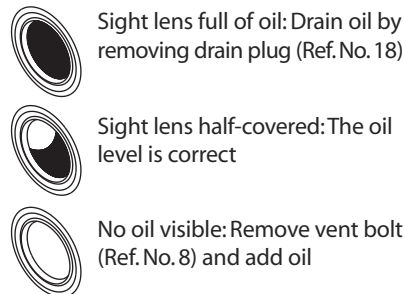

Figure 9 – Checking Oil
Refer to Figures 9 and 19.
- Check the fluid level. Look at the oil sight lens (Ref. No. 19) and follow the instructions in Figure 9.